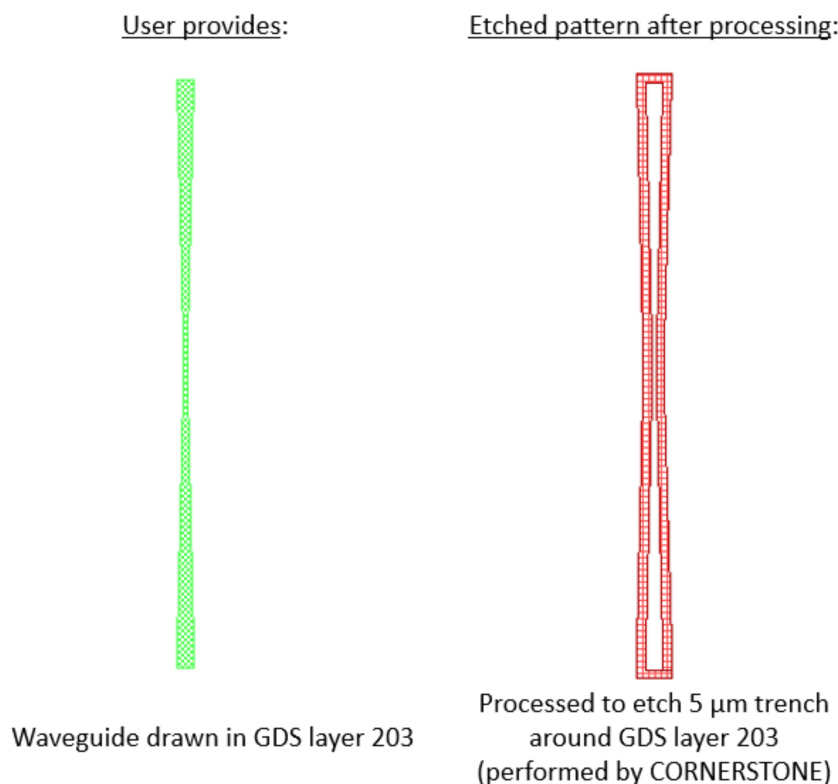

Figure 1: Description of GDS Layer 203 processing.
- Silicon Nitride Etch 1: 200 nm full etch to BOX – GDS Layer 203 (Light field): Drawn objects on this layer will be protected from the silicon nitride etch. Users should draw the waveguides and any other features to remain following the full silicon nitride etching. During fracturing processing, this will be translated into a pattern that defines 5 μm -wide trenches on either side of the waveguides drawn in GDS layer 203 (see Figure 1).